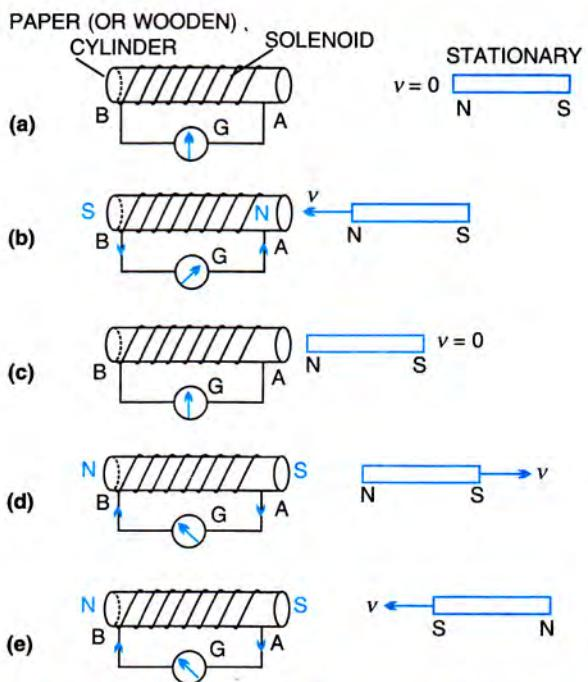

Fig. 10.29 Demonstration of electromagnetic induction
a magnet NS at some distance, along the axis of solenoid as shown in Fig. 10.29.
- (1) When the magnet is stationary ( $v = 0$ ), there is no deflection in galvanometer and its pointer reads zero [Fig. 10.29 (a)].
- (2) When the magnet with its north pole facing the solenoid is moved towards it, the galvanometer shows a *deflection towards right* showing that a current flows in solenoid in the direction B to A as shown in Fig. 10.29 (b).
- (3) As the motion of magnet is stopped, the pointer of galvanometer comes to zero position [Fig. 10.29 (c)]. This shows that *the current in solenoid flows as long as the magnet remains moving.*
- (4) If the magnet is moved away from the solenoid, the pointer of galvanometer *deflects towards left* [Fig. 10.29 (d)] showing that the current in solenoid flows again, but now in direction A to B which is opposite to that shown in Fig. 10.29 (b).
- (5) If the magnet is moved away rapidly, the deflection in the galvanometer increases although the direction of deflection remains same. It shows that now more current flows.
- (6) If the magnet is brought towards the solenoid by keeping its south pole towards it, the pointer of galvanometer deflects towards left [Fig. 10.29 (e)] showing that the current in solenoid flows in direction A to B which is opposite to that shown in Fig. 10.29 (b).
In Fig. 10.29 (b), when north pole of the magnet is brought towards the end A of solenoid, the induced current flows in solenoid in direction B to A i.e., at the end A, the current is anticlockwise, so the end A of solenoid becomes a north pole to repel the magnet. Thus it opposes the motion of north pole of magnet towards the solenoid which is the cause of producing it.
Similarly, in Fig. 10.29 (d), when north pole of magnet recedes from end A of the solenoid, the direction of induced current in the solenoid is from B to A i.e., it is clockwise at the end A, and it becomes the south pole so as to oppose the motion of north pole of the magnet away from the solenoid which is the cause of producing it.